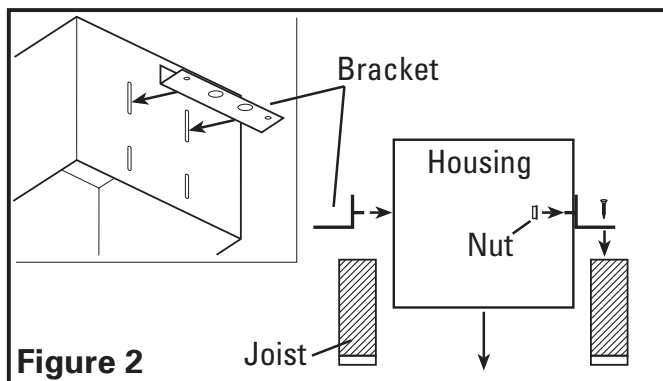

Figure 2
- 1a. **Installation on 2x4 Joists on 16" Centers:** Install the mounting brackets through the second set of slots on the fan housing and secure in place with the four included #10-32 nuts as shown. Center the fan housing between the joists and secure the mounting brackets with screws or nails (not included) to the joist. Adjust the height of the housing so that it is flush with the finished ceiling by loosening the mounting bracket nuts and sliding the housing up or down on the bracket. Fully tighten all four nuts to secure the housing in place (**Figure 2**).